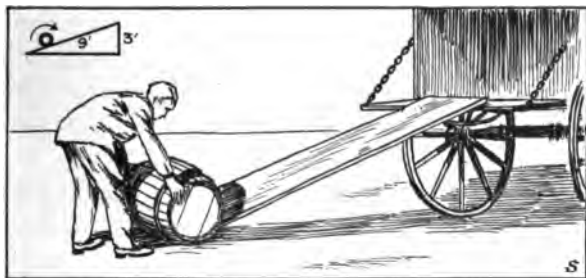

FIG. 232.
**A running start necessary to an airplane.** An airplane has not sufficient power to rise straight up, and it must have attained a certain speed before the air will support it. It therefore starts running forward, and when it leaves the ground rises along an inclined plane (Fig. 232) into the air. Large birds also must have a running start to rise; a condor or wild goose cannot fly out of a small cage, even though the cage is open at the top, and when wild ducks fly from the water they rise against the wind. Watch a heavy bird rise. Does it fly straight up or does it rise only gradually as it moves forward through the air?